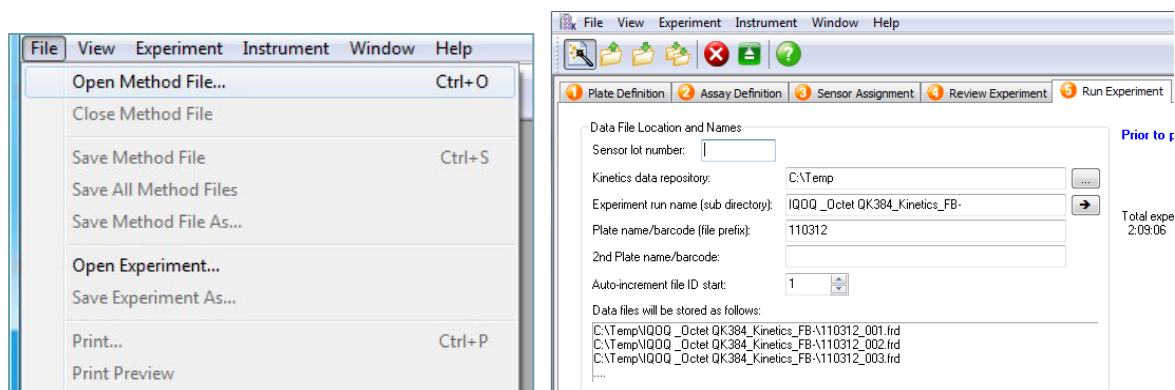

FIGURE 3.11. OCTET DATA ACQUISITION SOFTWARE ACTIONS TO SET UP KINETICS QUALIFICATION EXPERIMENT.
1.8.2. In the **Sensor lot number:** field, enter the lot number (Figure 3.11). The lot number of the Streptavidin biosensors used in the experiment can be found on the biosensor tray pouch label.